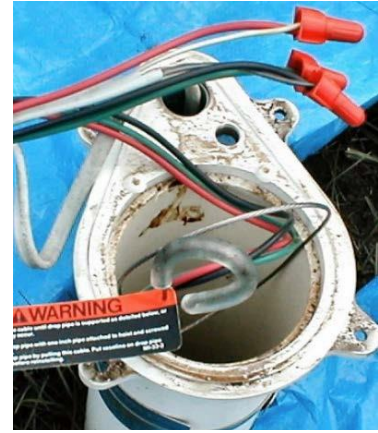

Figure 1
- Removing the well cap and moving the wires with the connector caps to the outside of the casing to avoid getting them wet when doing Steps 6 and 7 (see Figure 1); or